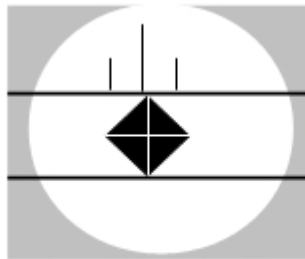

Figure 5-13 Move Bottom Filar Line to Bottom Tip
9. Turn the measuring micrometer to move the bottom filar line to the bottom tip as Figure 5-13 illustrates.